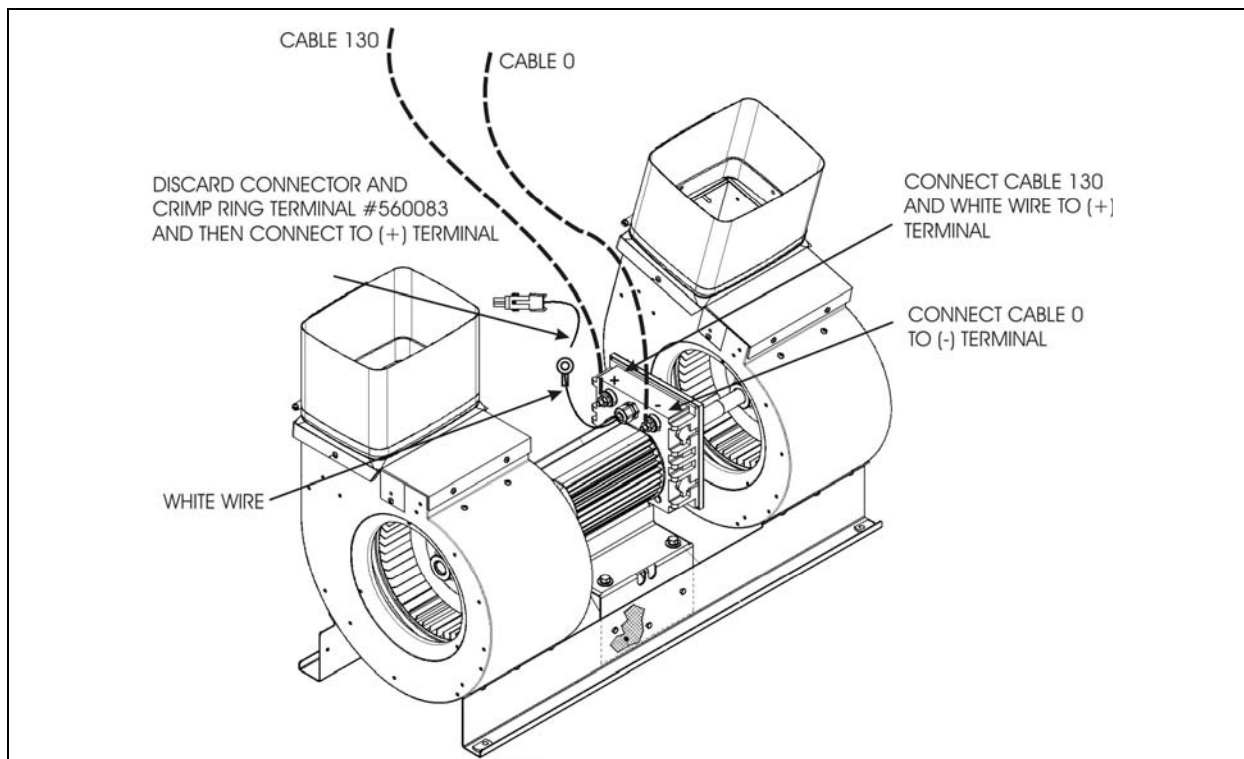

FIGURE 4 : CONNECTIONS
11. On the drive motor speed control wire (white), discard the connector, place the heat shrinking sleeve and crimp ring terminal #560083. Connect the ring terminal to drive motor (+) terminal (see figure 4).